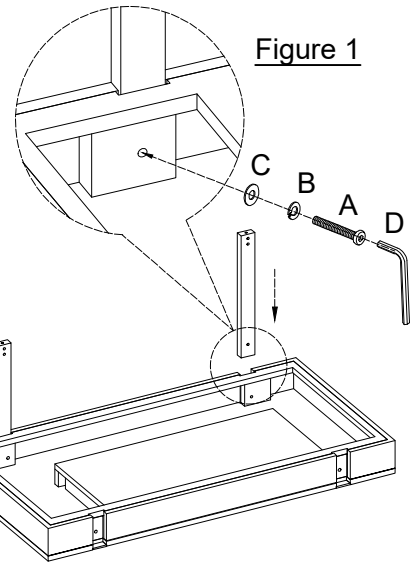

Figure 1
2. Attach two legs to the top frame using Bolt (A), Lock Washer (B) and Flat Washer (C) and tighten with the Allen Wrench (D). As Shown in Figure 1.(Do not tighten bolts).